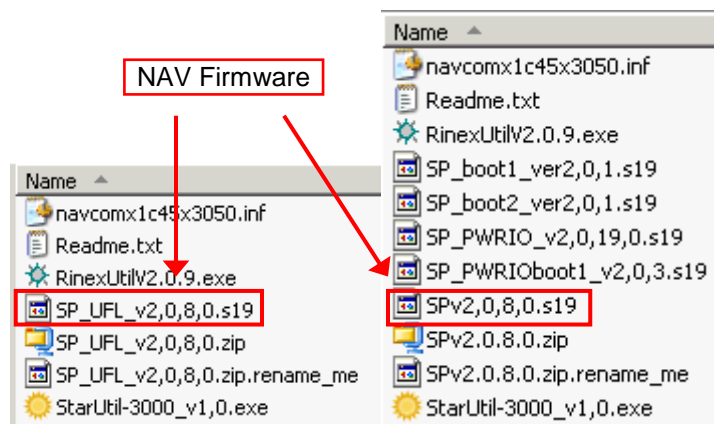

Figure 58: Firmware Folder Contents
3. Browse to the NavCom\Firmware folder on the PC (see Figure 58).
4. The Firmware folder is copied from the SF-3040 Product Configuration USB Flash Drive or the SF-3050 Product Configuration USB Flash Drive. It contains the *most current firmware* (see example files in Figure 58). The firmware file extension is *.s19.